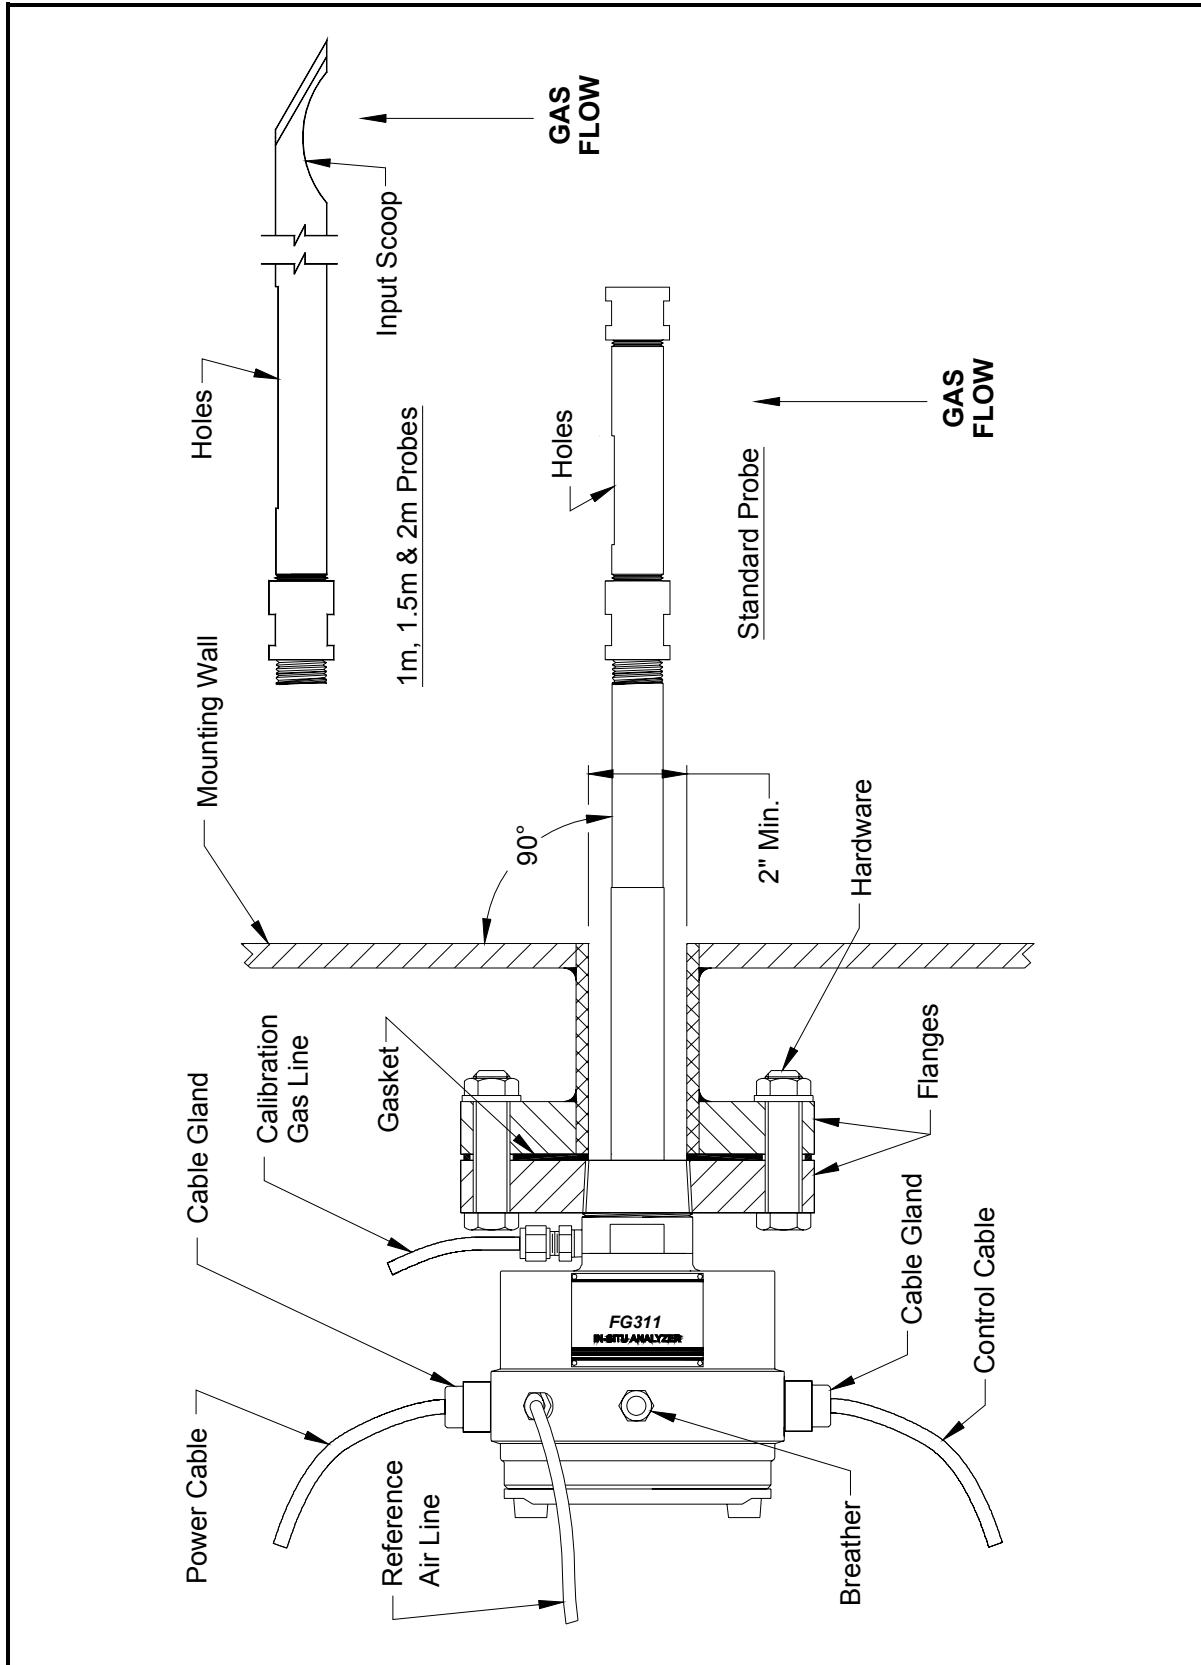

Figure 2-2: Flange Mounting the FGA 311
Environmental and installation factors should already have been discussed with a GE Sensing applications engineer or field sales person before the FGA 311 arrives. The analyzer must be installed either in a furnace or boiler wall or in a flue duct. Ideally, the end of the probe assembly should extend approximately 1 ft (30.5 cm) into the flue gas stream. Also, the analyzer should be positioned so that the probe holes are on the downstream side of the probe (see Figure 2-2 on page 2-4).
Note: *For installations where the FGA 311 may be exposed to water or other fluids, install the unit with the breather (see Figure 2-2 on page 2-4) facing downward.*
2. Weld a mating flange onto the end of the pipe, as shown in Figure 2-2 on page 2-4.
IMPORTANT: *The probe holes must be positioned on the downstream side of the probe. See Figure 2-2 on page 2-4 for the proper orientation.*